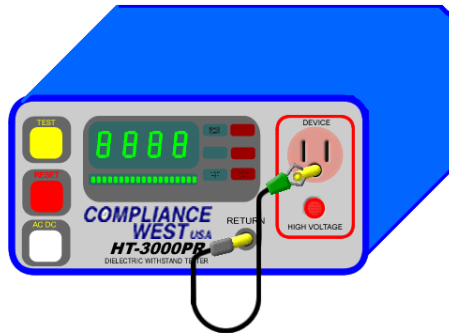

Figure 4. Short on the Ground Continuity Circuit
4. Plug the supplied 18 AWG GL Test Lead (Alligator Clip/Banana Plug ends, black) into the **RETURN** receptacle on the front panel, then, connect in shortcut circuit the green alligator clip end to the Ground Connector Tip connected on step 3. See figure 4.